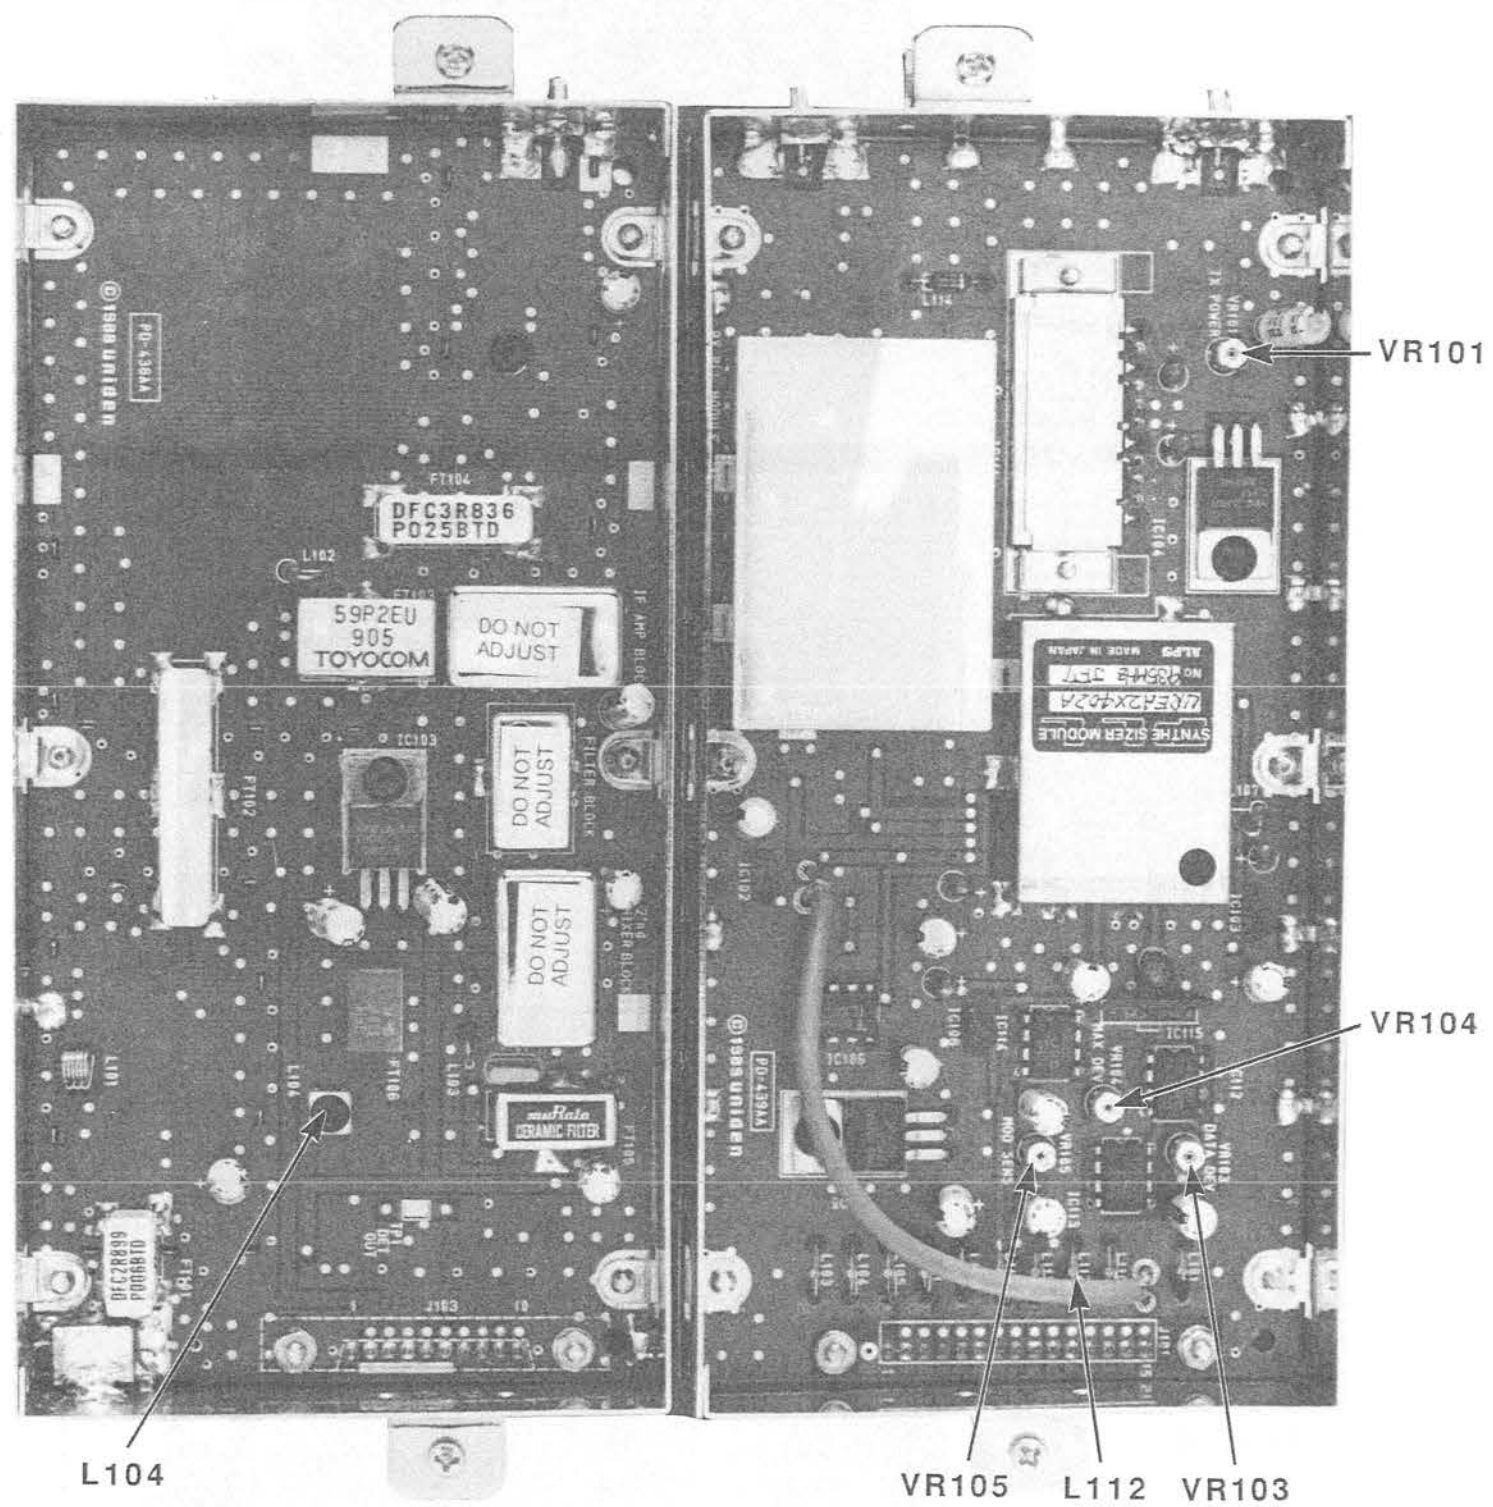

Figure 14. Receiver Module and Local Oscillator Module Alignment Points
3. Depress the microphone PTT switch and adjust VR101 on the Local Oscillator PCB (see figure 14) for desired power output (between 200 and 400 mW).